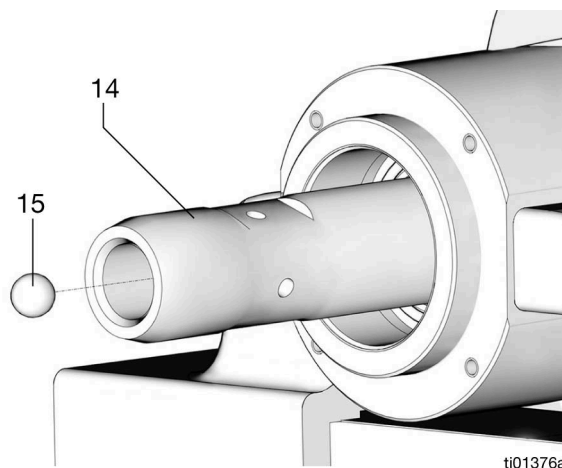

FIG. 12
13. Remove the check ball (15) from the inside of the displacement rod (14) and set aside (FIG. 12).